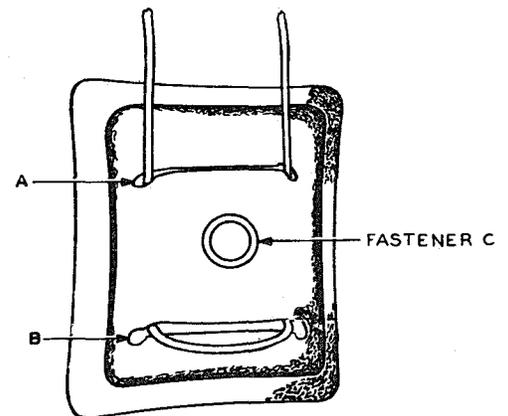

Fig. 17 - Foam Rubber Headband Pad
**3.55 Foam Rubber Headband Pad:** To remove a foam rubber pad from the headband, un-snap fastener C shown in Fig. 17 and pull the pad off the headband through slots A and B.
**3.56** To place a foam rubber pad on the headband, un-snap fastener C shown in Fig. 17 and pass the free end of the headband through slot A and out through slot B. Snap fastener C to hold the headband in place.